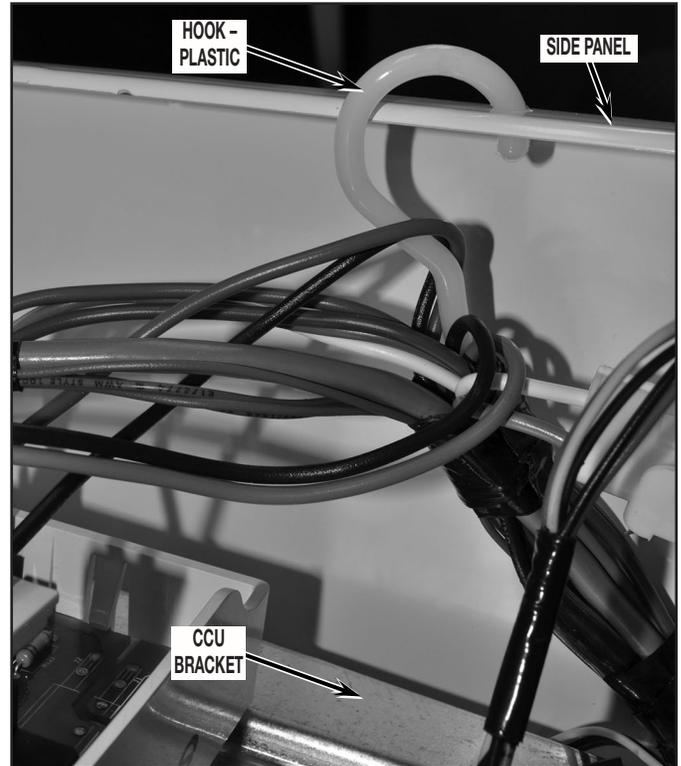

FIGURE 16
- To gain further access to the burner assembly the drum will need to be removed. Before removing drum from dryer the CCU and bracket assembly must be secured in position to side panel using the plastic hook attached to the main harness. This will allow the CCU assembly to hang in place rather than dropping down when the drum is removed. See Figure 16.